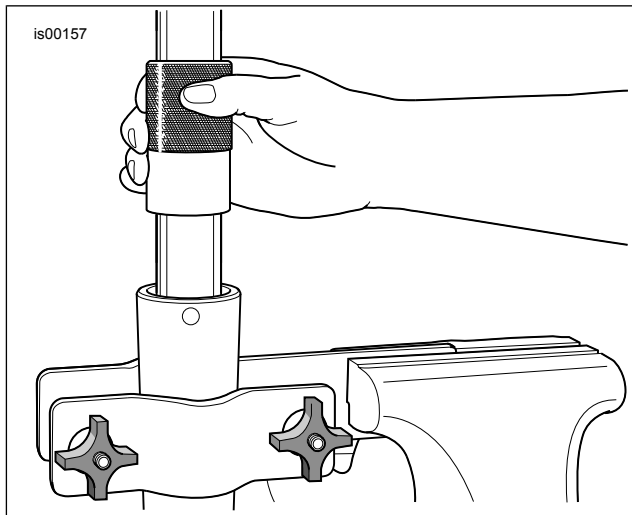
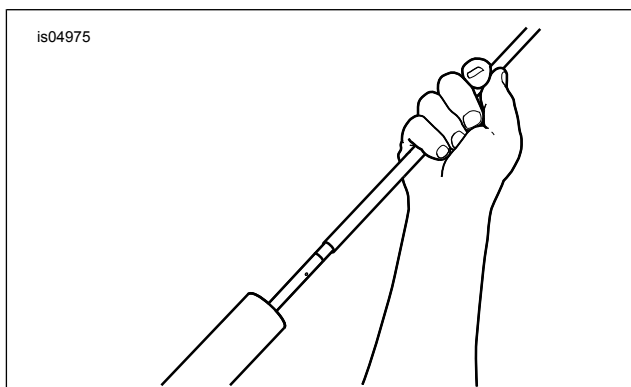

Figure 2. Install Fork Oil Seal
Figure 6. Pump Damper Rod Extension Tool
2. Insert spring (12) and spring collar (16) into fork tube, with dense section of coils toward damper tube. Push bottom of damper tube through the opening at the bottom end of the fork tube. Place oil lock (I) over end of damper tube.
3. Apply Loctite 565 Thread Sealant to screw (11). Position fork tube and damper tube in fork slider (J). Hold the assembly in place by exerting pressure on the spring. Install screw and copper washer (11) from kit.
5. Coat inner diameter (ID) and outer diameter (OD) of slider bushing (H) with clean fork oil. Slide slider bushing down fork tube (either direction).
6. Slide slider washer (G) down fork tube until it contacts slider bushing (either direction).
7. Coat the ID of the **new** fork oil seal (8) with clean fork oil. Coat the OD of the fork oil seal with Harley-Davidson Seal Grease. With the lettering side facing up, slide fork oil seal down the fork tube until it contacts the slider washer.
8. See Figure 2. Obtain the Fork Seal/Bushing Tool (HD-36583) and proceed :
- b. See Figure 2. Using the tool like a slide hammer, drive fork oil seal (with slider washer and slider bushing) down the fork tube until retaining clip groove is visible in fork slider ID.
1. Unless already installed, coat new fork tube bushing (E) ID with clean fork oil. Expand fork tube bushing at split line only as far as required to slip over end and into groove of fork tube (14).
2. Install fork slider (K) in fork tube holder. Slide fork tube (14) into fork slider.
3. Coat inner diameter (ID) and outer diameter (OD) of slider bushing (H) with clean fork oil. Slide slider bushing down fork tube (14) (either direction).
4. Slide slider washer (G) down fork tube until it contacts slider bushing (either direction).
5. Coat the ID of the **new** fork oil seal (8) with clean fork oil. Coat the OD of the fork oil seal with Harley-Davidson Seal Grease. With the lettering side facing up, slide fork oil seal down the fork tube until it contacts the slider washer.
6. See Figure 2. Obtain the Fork Seal/Bushing Tool (HD-36583) and proceed:
- c. Slide the retaining clip (F) down the fork tube until it contacts the fork oil seal. Install retaining clip in the fork slider groove. Do not expand or stretch retaining clip to install on fork tube or clip could be damaged.
7. Install dust seal (15).
9. Install oil lock (9) over the end of the damper cartridge (7).
12. Apply Loctite 565 Thread Sealant to screw (11). Install new screw (11) with copper crush washer. Slide screw through hole at bottom of fork slider and start into end of damper cartridge.
13. Obtain fork spring (6) from the kit. Install new fork spring into fork tube.
14. Put a shop rag on the floor. Turn the fork assembly upside down. Press the end of the spring against the rag. Compress the spring and tighten the screw (11) to 20 ± 5 N·m (15 ± 4 ft-lbs).
- a. See Figure 6. Thread extension tool onto end of damper rod.